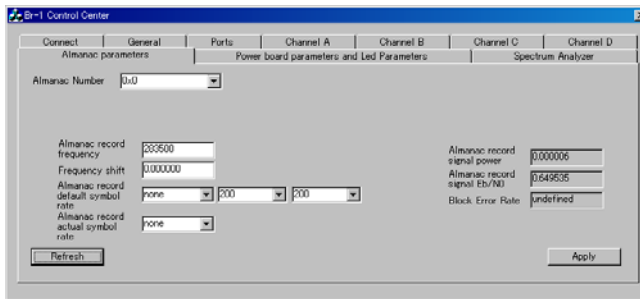

Figure A-6. BR-1 Almanac Settings
2. Click Apply (Figure A-6 on page A-10). Continue with other set up activities, or click Disconnect on the Connect tab and the close button to quit BR-1 Control Center.